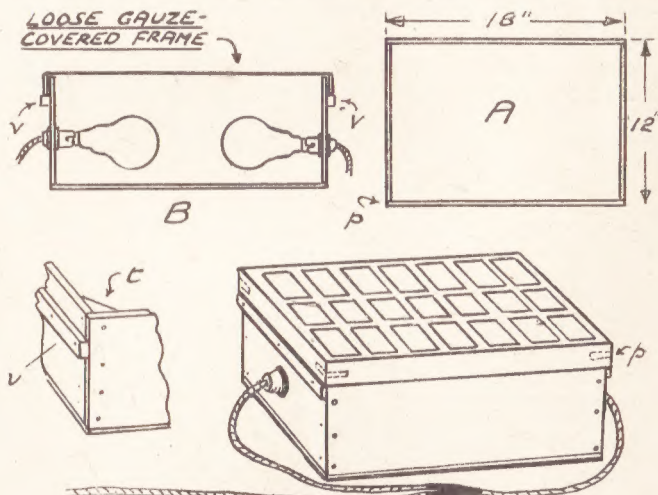

Fig. 2—An electric lamp container
excellent thing to have a heat drier, the heat being supplied by two electric bulbs encased in a container as Fig. 2. First required is the gauze-covered frame (A) which in general is the same as the one just described. In this case, however, a convenient size is 12 ins. by 18 ins., which means that it will hold three rows of seven each of  $3\frac{1}{4}$  in. by  $2\frac{1}{4}$  in. prints at any one time.